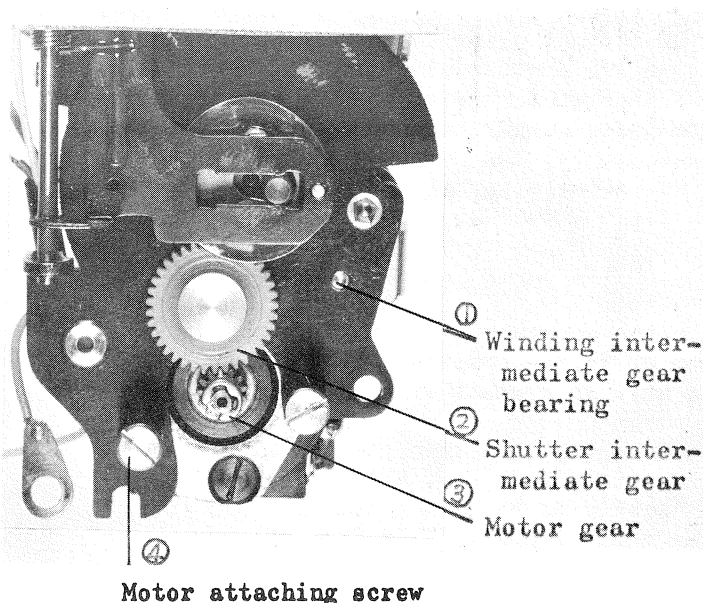

Fig. 42
- 9-3-2. Adjustment of motor gear and intermediate gear engagement: loosen the motor mounting screw shown in Fig. 42 (4), connect the ammeter, rotate the motor. It is important that the screw be loosened just enough to allow motor repositioning.